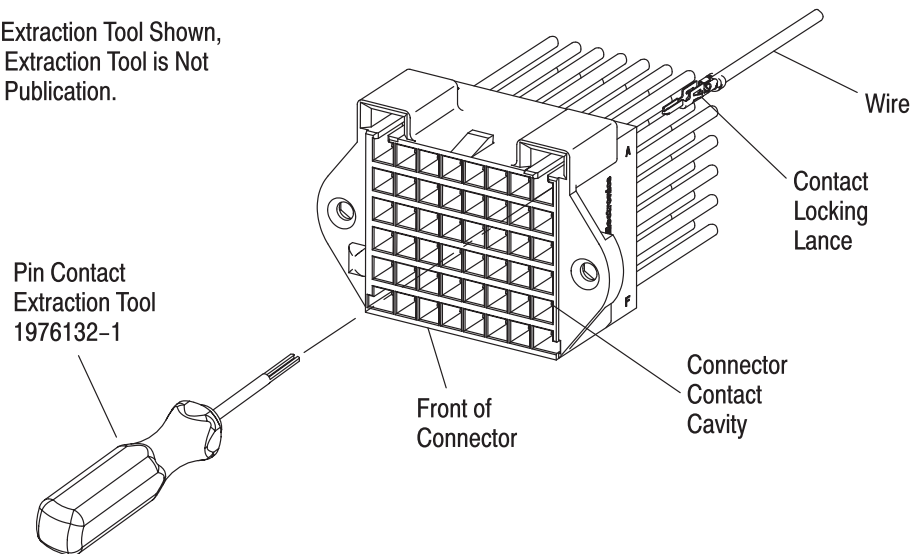

Figure 12
3.12. Repair/Removal (Figure 12)
Use an extraction tool to remove individual contacts from connectors for replacement or for relocation to another housing cavity. Extraction Tool 1976297-1 is used to extract contacts from receptacle connectors. Extraction Tool 1976132-1 is used to extract contacts from plug connectors. See Figure 12. Reset the locking lances to the original spread before reusing contacts. Damaged or worn contacts may be replaced provided there is sufficient slack, after restripping the wire, to insert the new contact into the connector. Refer to the extraction tool instruction sheets provided in Paragraph 2.5 for information on how to remove the contacts from the housings.